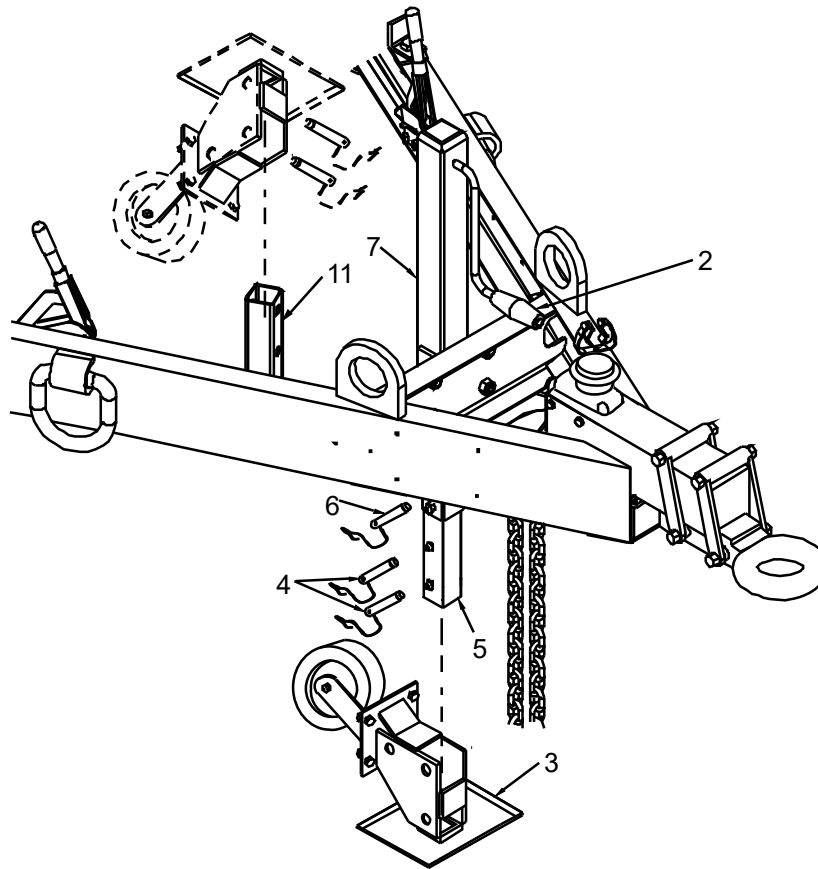

Figure 9. Secure Tongue Jack Assembly.
14. Rotate tongue jack hand crank (Figure 9, Item 2) to raise wheel/skid plate assembly (Figure 9, Item 3) off the ground.
15. Remove two assembly pins (Figure 9, Item 4) holding wheel/skid plate assembly to tongue jack extension (Figure 9, Item 5).
16. Release extension pin (Figure 9, Item 6) and push tongue jack extension all the way up into tongue jack (Figure 9, Item 7). Secure tongue jack extension by reinserting pin in tongue jack.
18. Place wheel/skid plate assembly onto storage post (Figure 9, Item 11) with skid plate facing rear of the trailer.